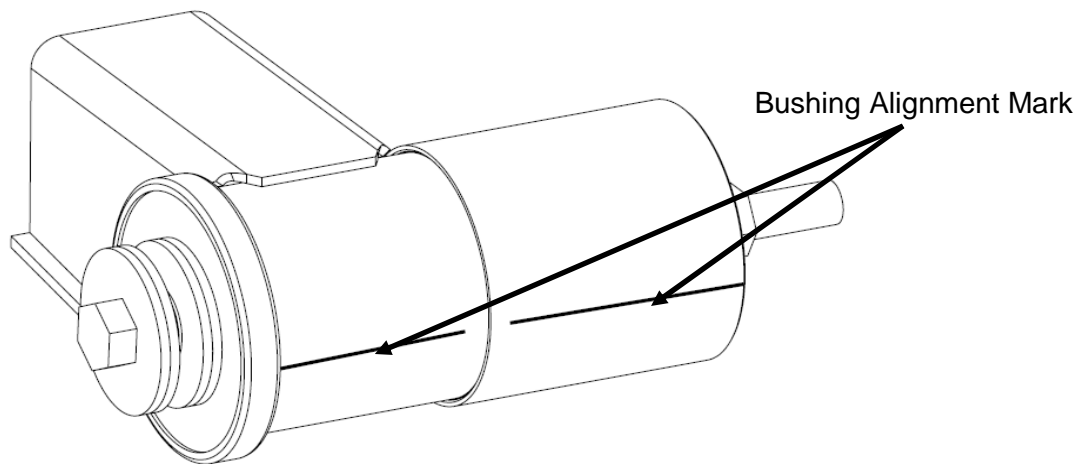

Figure 6 Bushing Alignment Marks
1. Mark bushing rotation on arm sleeve before the removal of the bushing. (Refer to Figure 6)
3. Draw a line on the arm sleeve and transition tube that correctly align the bushing to the arm sleeve. (As shown in Figure 6)